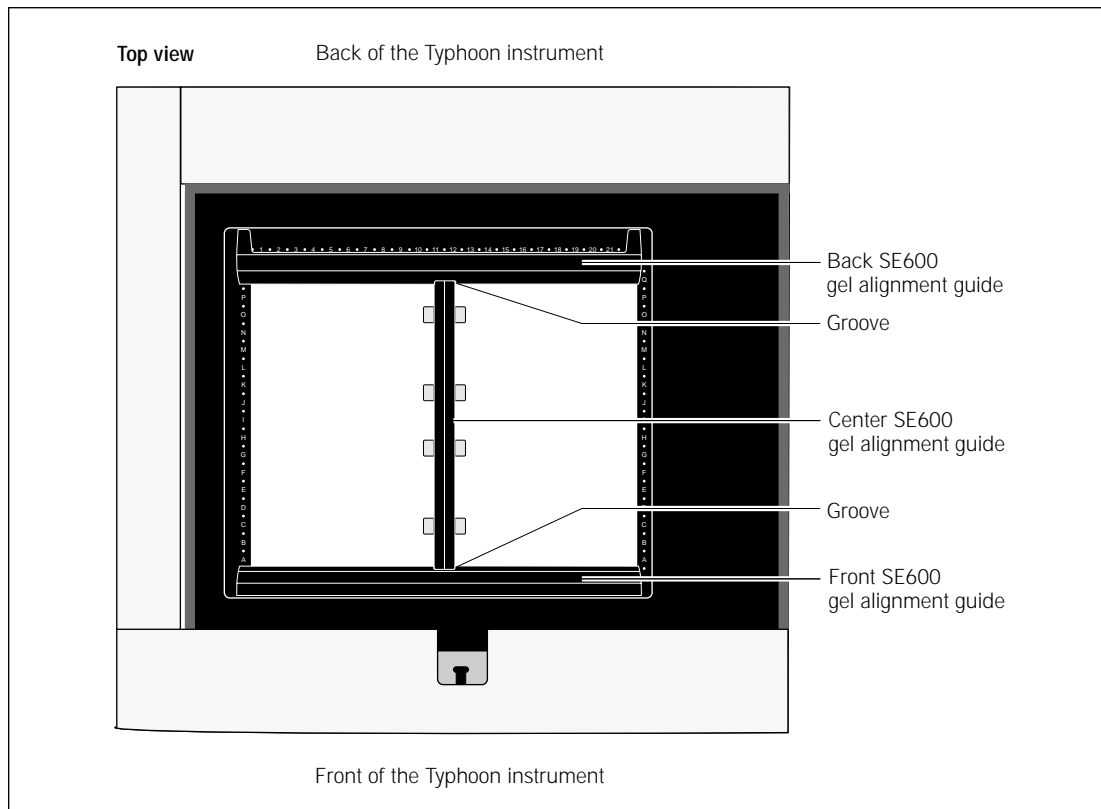

Figure 8-8. Placing the three pieces of the SE600 gel alignment guide on the glass platen.
3. Place the front SE600 guide along the front edge of the glass platen as shown in figure 8-8.
4. Place the back SE600 guide along the back edge of the glass platen as shown in figure 8-8.
5. Place one end of the center SE600 guide in the groove on the back SE600 guide, and place the other end in the groove on the front SE600 guide as shown in figure 8-8.